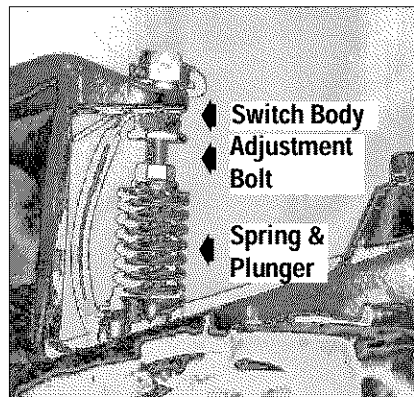

Figure 5-24: Spring and plunger assembly.
and engine mount move down to press on the reverse adjustment bolt (Figure 5-24). This action compresses the reverse spring and plunger assembly, requiring you to hold the lever up in REVERSE.
The spring and plunger assembly is designed to prevent the reverse disc from making contact with the transmission pulley until you shift into REVERSE. When the lever is in NEUTRAL, the switch body on the bottom of the engine mount tab should be resting squarely on top of the reverse adjustment bolt (Figure 5-24). The reverse adjustment bolt can be adjusted up or down to correct a number of reverse drive operating problems, as explained next.
5. Move the Wheels/Tines/PTO Drive Lever to NEUTRAL. The switch body on the bottom of the engine mount tab (Figure 5-24) should be resting squarely on top of the reverse adjustment bolt, and the reverse disc should be at least 3/16" away from the transmission drive pulley. If the reverse disc is any closer than this, raise the reverse adjustment bolt (turn it counterclockwise).